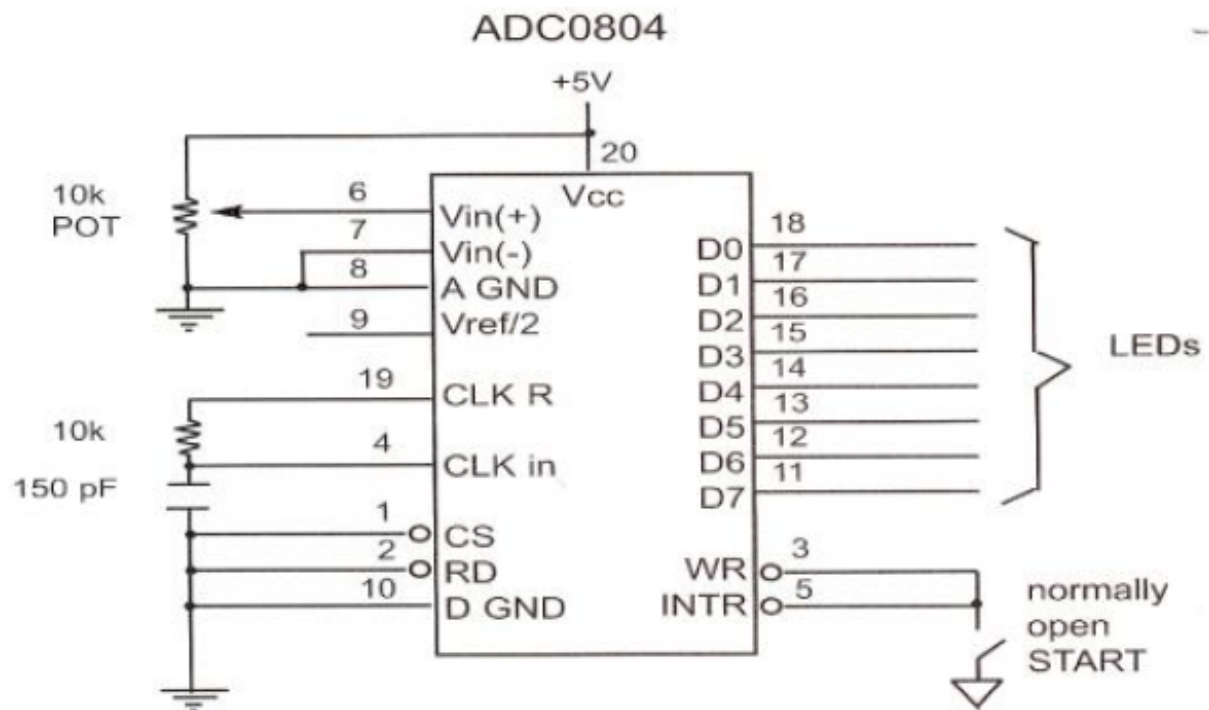

Figure 9.2: ADC0804 test circuit for free-running mode.
- Connect the ADC0804 as shown in Figure 9.2 for free-running mode.
2. Vary the input signal from 0 to 5 V using the 10 k Ω potentiometer shown in Figure 9.2 as the ADC's input. The input must not exceed 5 V.
4. Compare your hardware result with the value calculated using Equation (1).
1. Use the circuit from Figure 9.2, modified as follows.